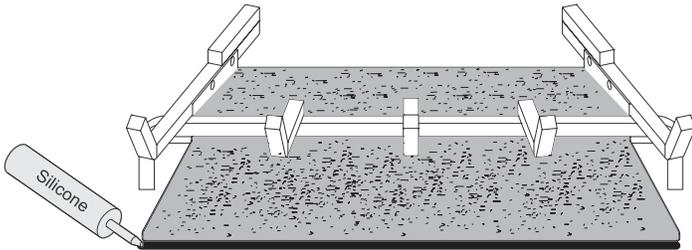

Figure 17
1. Pour the provided sand over the entire burner, filling the burner pan. The sand (rockwool mix) should follow the slope of the burner pan, covering the burner completely. See Figure 17.